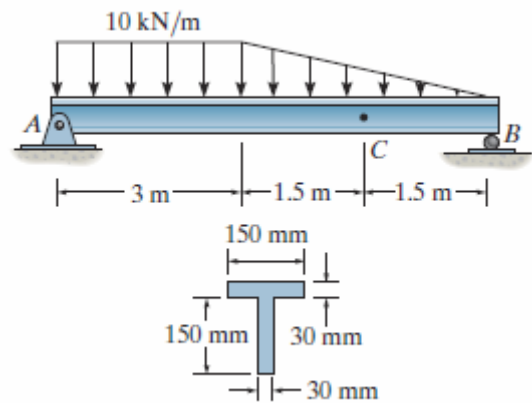

Fig. 5
5. Determine the maximum shear stress in the T-beam at the critical section where the internal shear force is maximum. Determine the maximum shear stress in the T-beam at point C. Show the result on a volume element at this point. (Fig. 5)